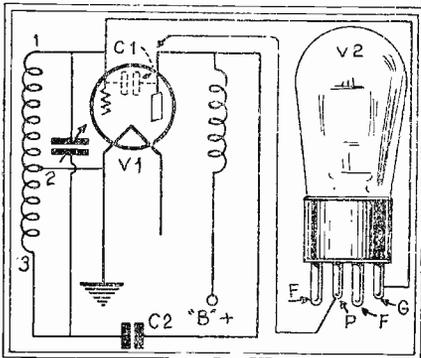

Fig. 3
Referring to Fig. 3, it should be quite apparent that, if point 2 in the tuned circuit (at left) is the exact electrical center of the grid inductance, stability is obtained only when the value of the capacity C2 is exactly equal to the value of the interelectrode capacity C1. In such a circuit arrangement a burnt-out tube V2 (of the same type as V1, and whose grid and plate electrodes are intact) will constitute an ideal neutralizing tube is just right; (3) no adjustments to achieve stability.